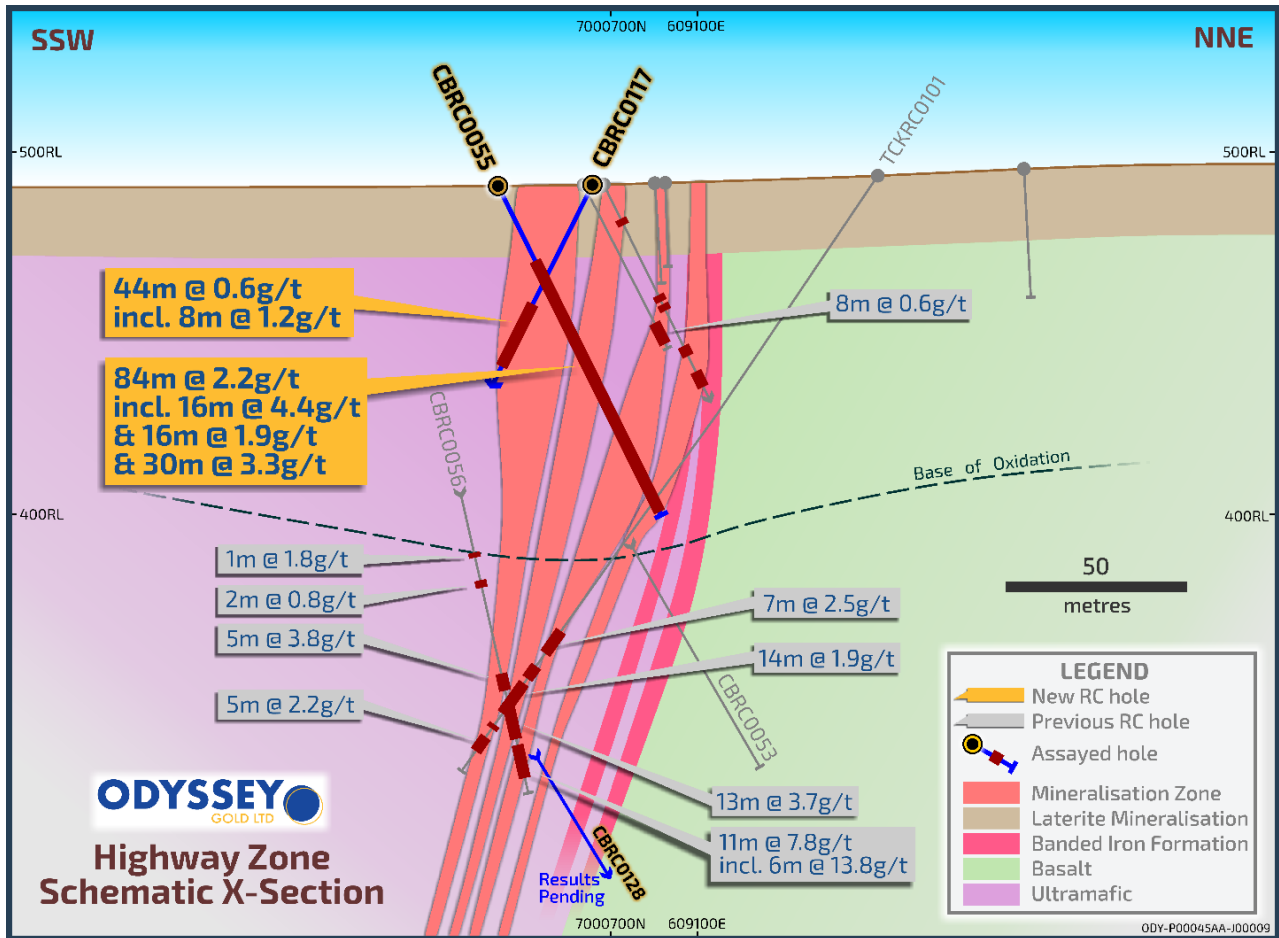

Figure 2 - Cross section through holes CBRC0117 and CBRC0055. CBRC0117 is drilled oblique to the cross section and is not fully displayed.
- Holes CBRC0055, CBRC0056 and TCKRC0101ii (Figure 2) show strong vertical continuity and confirm the broad width of mineralisation.